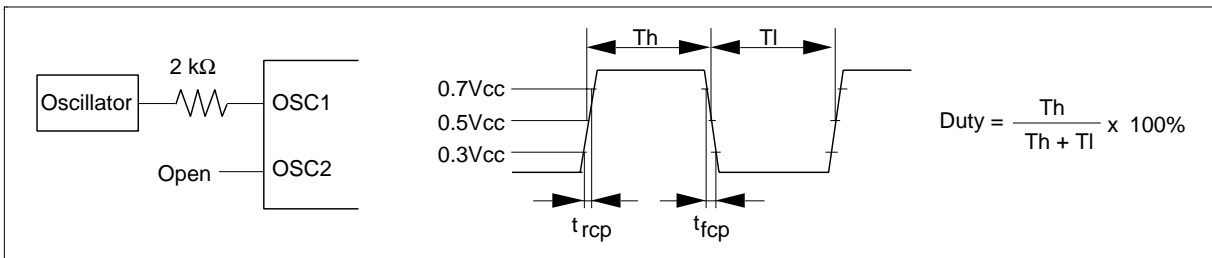

Figure 52 External Clock Supply
9. Applies to the external clock input (figure 52).